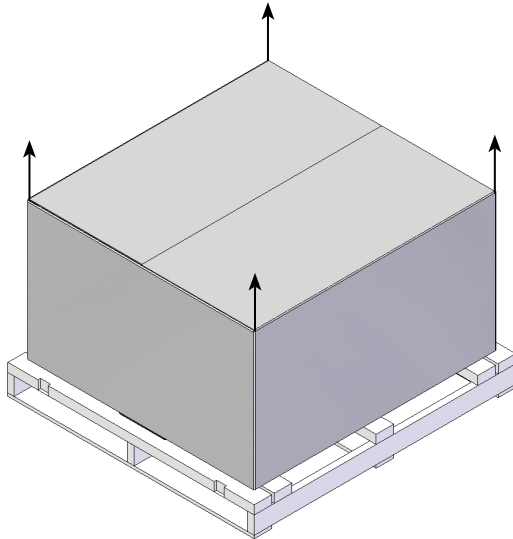

Figure 1A
1. Remove outer sleeve. **Figure 1A.**